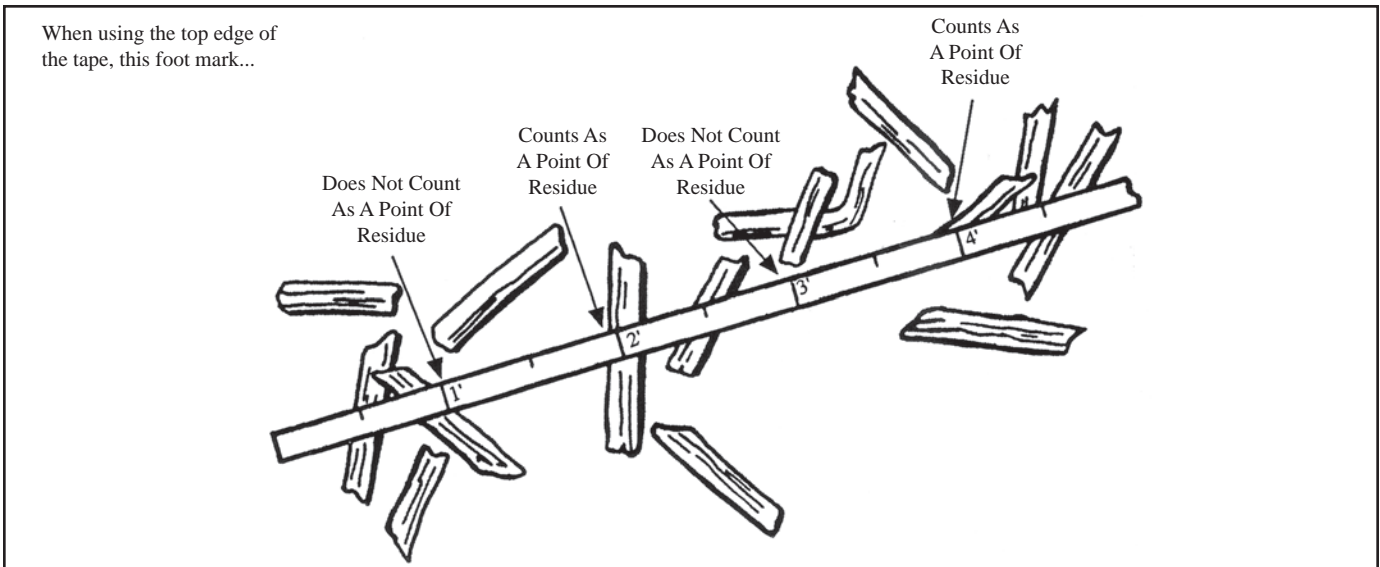

Figure 2. While consistently looking at only one side of the measuring device, count only those marks that have a piece of *residue* beneath them.
- To get an accurate measurement, count only those marks that have residue *exactly under them* (Figure 2).